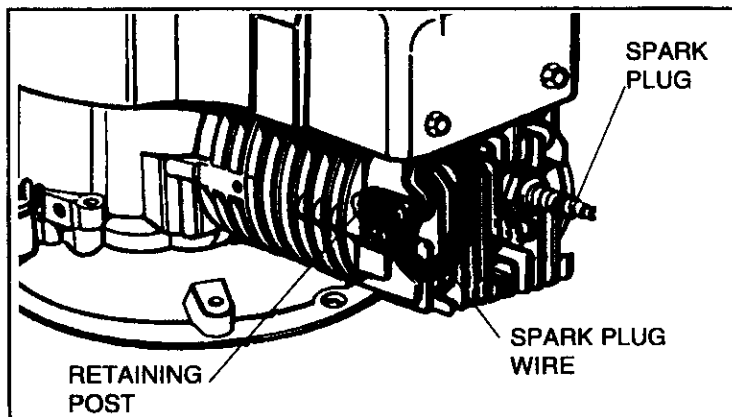

Figure 6
DISCONNECT SPARK PLUG WIRE FROM SPARK PLUG AND ATTACH IT TO RETAINING POST (see Figure 6 on Page 3).
① See mower manufacturer's instructions.
② AFTER ENGINE IS STOPPED:
- ⚠ A. DISCONNECT SPARK PLUG WIRE FROM SPARK PLUG AND ATTACH IT TO RETAINING POST (see Figure 6).**
⚠ A. DISCONNECT SPARK PLUG WIRE FROM SPARK PLUG AND ATTACH IT TO RETAINING POST (see Figure 6).